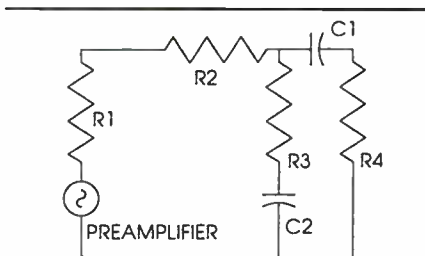
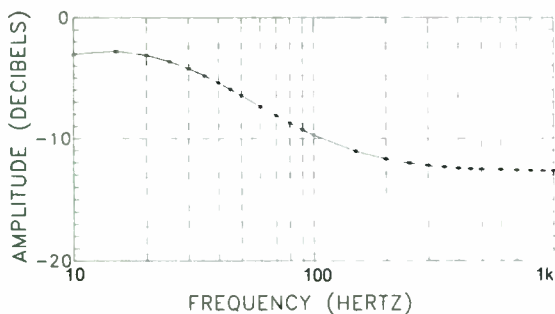

FIGURE 4: Passive low-pass circuit to partially correct for low-frequency self-cancellation.
FIGURE 5: Passive low-pass circuit frequency response.
An important design aspect is shaping the three cone drivers' low-frequency response below 136Hz by placing a simple passive circuit (Fig. 4) between the preamp output and the main amplifier input. The circuit's frequency response is shown in Fig. 5. It has 2.8dB of insertion loss and 9.4dB of low-frequency boost between 15Hz, where it peaks, and 200Hz, where it flattens to within 1dB. We are calling it 9.4dB of low-frequency boost, although it is actually the equivalent amount of midfrequency attenuation.
5. A resonant crossover ($Q = 1.6$) placed in series with the subwoofer provides 4dB of additional electrical boost at 30Hz (Fig. 5). Ignoring for a moment the acoustical self-cancellation effects and using the manufacturer's sensitivity results in a net difference between the subwoofer and the two midranges of: